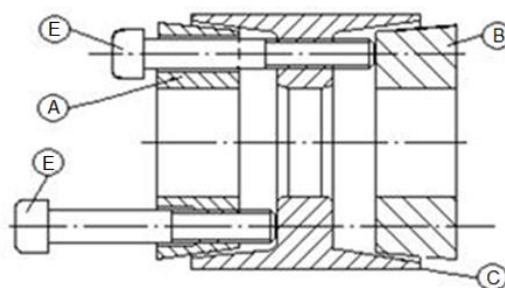

Figure 8.4: Ring disassembly detail
2. Extract the A and C parts, using puller screws E, as shown in Figure 8.4;